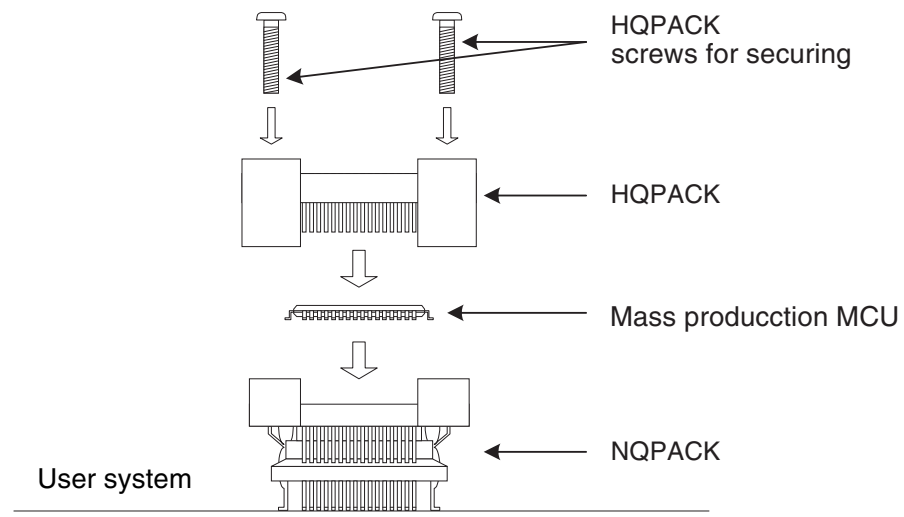

Figure 5 Mounting a mass production MCU
2. Confirm that the mass production MCU is correctly mounted on the NQPACK. Next, insert the HQPACK into a NQPACK (see Figure 5).